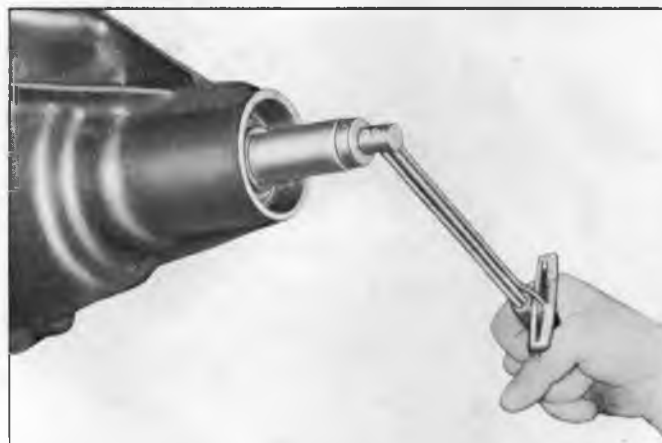

Fig. 10A-Measuring Drive Pinion Bearing Rotating Torque
- c. Tighten hex nut until 20 in. lb. of torque is required to rotate bearings. See Figure 10A.